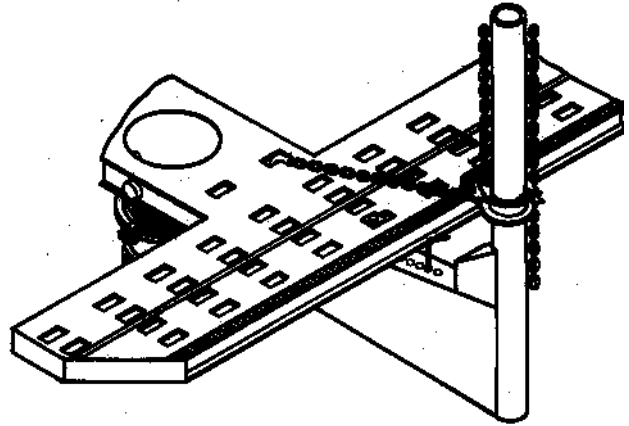

Figure 15
1. Move EZ Liner tower into position and bolt it to outer tie down hole on mainframe. (See Figure 15.)
3. Position tower chain hook in tie down hole approximately 18" (460 mm) in from outside edge of mainframe. Then lower collar to remove slack chain. (See also Figure 15.)